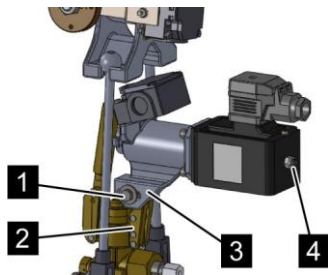
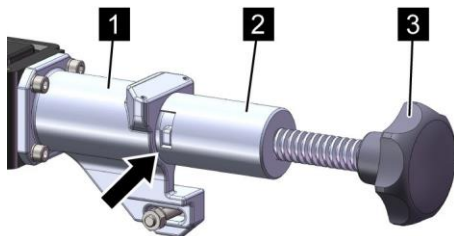

Fig. 73: Mounting the EM release device
Fig. 74: Clamping device
14. ➔ First loosely fasten the holder (Fig. 73/3) of the EM release device with the included hex bolt (Fig. 73/1), hex nut and washer on the base of the valve (Fig. 73/2).
15. ➔ Fit the clamping device (Fig. 74/2) onto the holder of the EM release device (Fig. 74/1) and fix it in place (Fig. 74/arrow).
16. ➔ By turning the adjustment wheel, push the release pin (Fig. 74/3) of the clamping device far enough into the housing that the locking bolt (Fig. 73/4) can be pushed in the counter direction and lock the release pin.
20. ➤ Tighten the hex nut (Fig. 73/1).